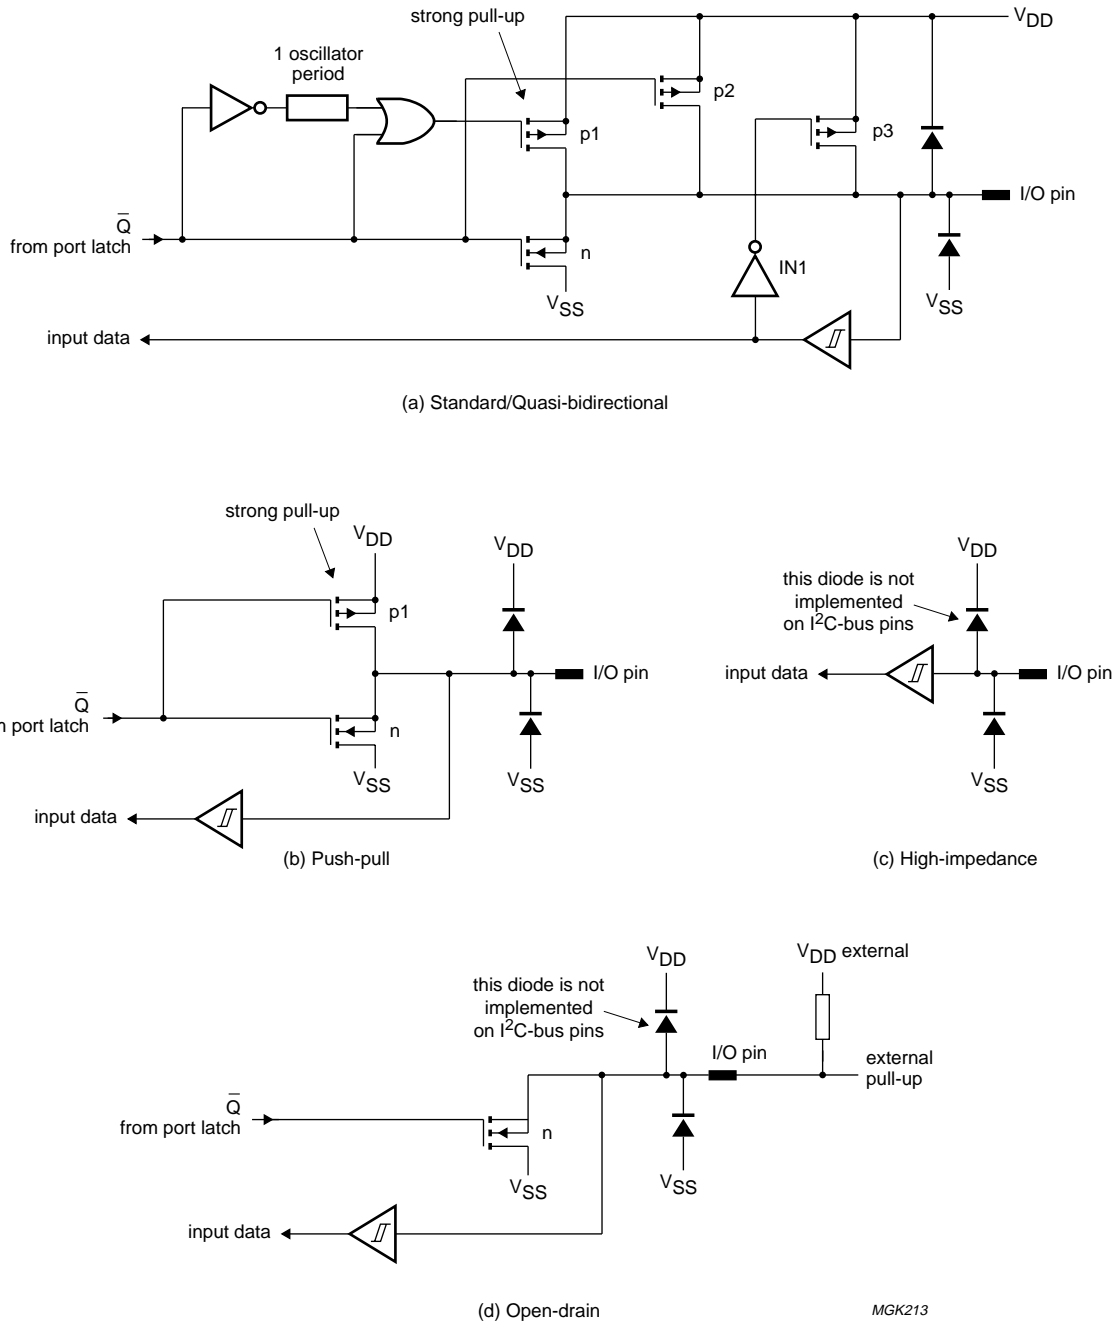

Fig.5 Port configuration options.
Each port consists of a latch (SFRs P0 to P3), an output driver and input buffer. All ports have internal pull-ups. Figure 5(a) shows that the strong transistor p1 is turned on for only 1 oscillator period after a LOW-to-HIGH transition in the port latch. When on, it turns on p3 (a weak pull-up) through the inverter IN1. This inverter and p3 form a latch which holds the logic 1.
**Mode 0** Open-drain; quasi-bidirectional I/O with n-channel open-drain output. Use as an output (e.g. Port 0 for external memory accesses (EA = 0) or access above the built-in memory boundary) requires the connection of an external pull-up resistor. The ESD protection diodes against VDD and VSS are still present. Except for the I2C-bus port (P1.6 and P1.7), ports which are configured as open-drain still have a protection diode to VDD. See Fig.5(a).
**Mode 1** Standard Port; quasi-bidirectional I/O with pull-up. The strong pull-up p1 is turned on for only two oscillator periods after a LOW-to-HIGH transition in the port latch. After these two oscillator periods the port is only weakly driven through p2 and 'very weakly' driven through p3. See Fig.5(b).
**Mode 2** High-impedance; this mode turns all port output drivers off. Thus, the pin will not source or sink current and may be used as an input-only pin with no internal drivers for an external device to overcome. See Fig.5(c).
**Mode 3** Push-pull; output with drive capability in both polarities. In this mode, pins can only be used as outputs. See Fig.5(d).